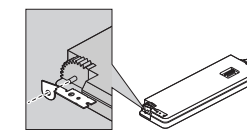

Fig. 11
**1. Attach the holders to both sides of the front panel. (Fig. 11)**